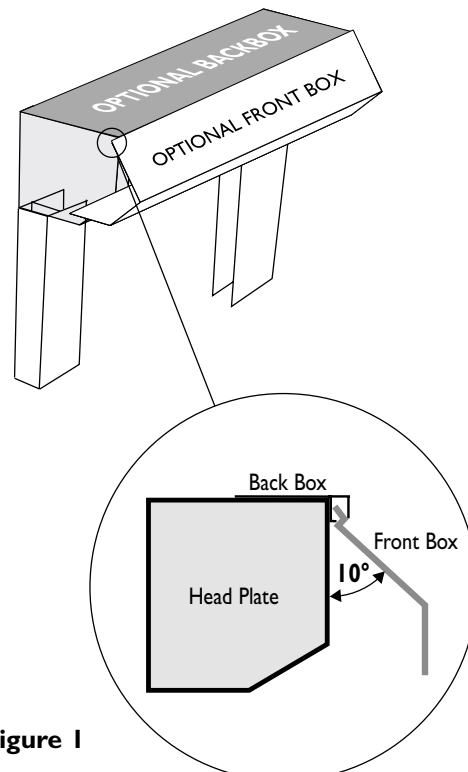

Figure 1
- (1) Clip the internal cover into the back box top retaining lip at approximately 10 degrees (See Fig 1).
- (2) Once clipped along the entire length of the back box top lip place the internal cover tight to the head plates.
- (3) Drill and fix in place with self tapping screws or pop rivets.
- (4) Drill a hole in the front cover to allow the manual over-ride bar to pass through and locate into the motor unit. Secure the over-ride to the head plate with self tapping screws.